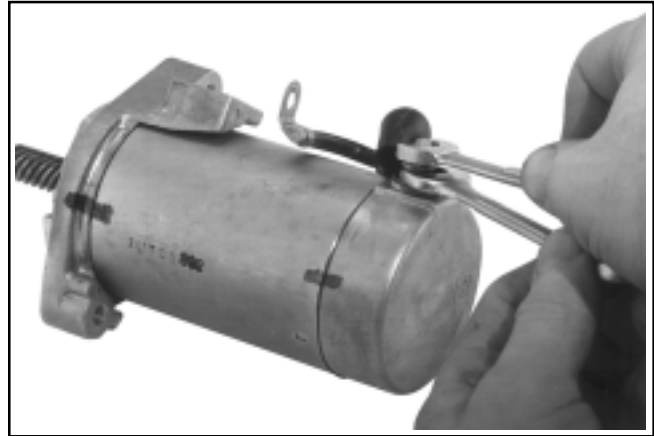

Figure 8-44. Assembling Starter Lead.
7. Attach the starter lead from the solenoid to the stud and add the lock washer and outer hex. jam nut to secure. Hold the lower jam nut from turning with a wrench while tightening the top nut, to prevent damaging the internal components. See Figure 8-44.